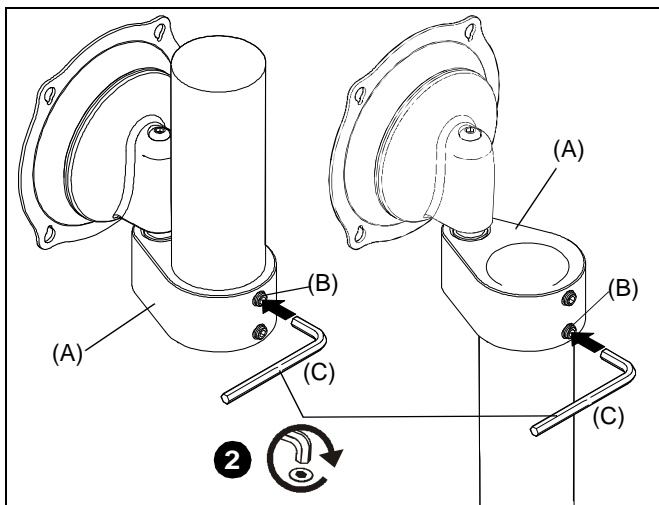

Figure 2
3. When mount (A) is properly positioned, secure mount to 1-1/2" NPT pipe by installing and tightening 5/16-18 x 3/8" set screw (B). (See Figure 2)